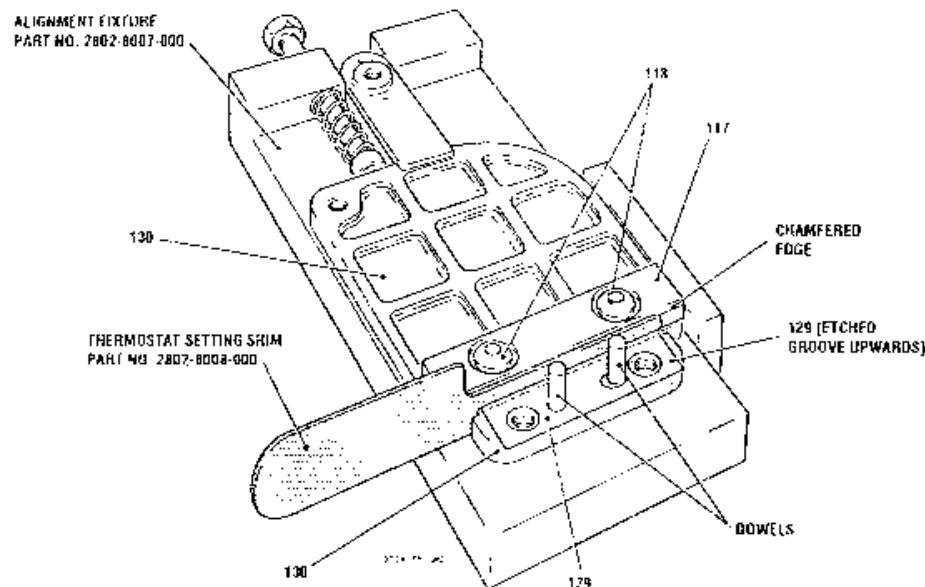

Fig. 3.30 Setting The Hinge Gap
- 4 Position the thermostat boss (130) on to the dowels of the alignment fixture Part No 2802-8007-000 and manoeuvre its matched thermostat flapper (117) into the alignment fixture against the spring pressure, as illustrated on Fig. 3.30
5. Position the hinge strip (129) on to the dowels over the thermostat flapper and boss ensuring that the etched groove in the hinge strip is facing upwards
6. Position the hinge plate flapper (117) on to the hinge strip with the chamfered edge of the hinge plate flapper adjacent to the dowels as illustrated in Fig. 3.30 and loosely fit the hinge plate flapper securing screws (118)
8. Release the thermostat flapper and torque tighten the hinge plate flapper securing screws (118) to 2.0 Nm using tool Part No. 2802-8053-000. Remove the thermostat